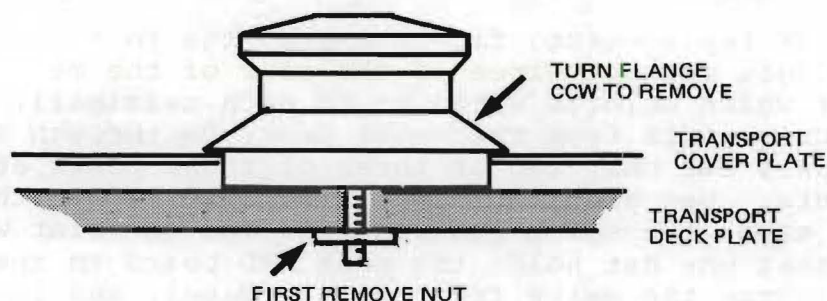

FIGURE 10-1. TAKEUP ROLLER GUIDE DISASSEMBLY
1. The right-hand (takeup) roller guide is held onto the transport deck plate with a single threaded stud (early versions). (On later MTR-10s, it is necessary to first grasp the roller assembly and remove the keeper nut below the transport.) Refer to figure 10-1.